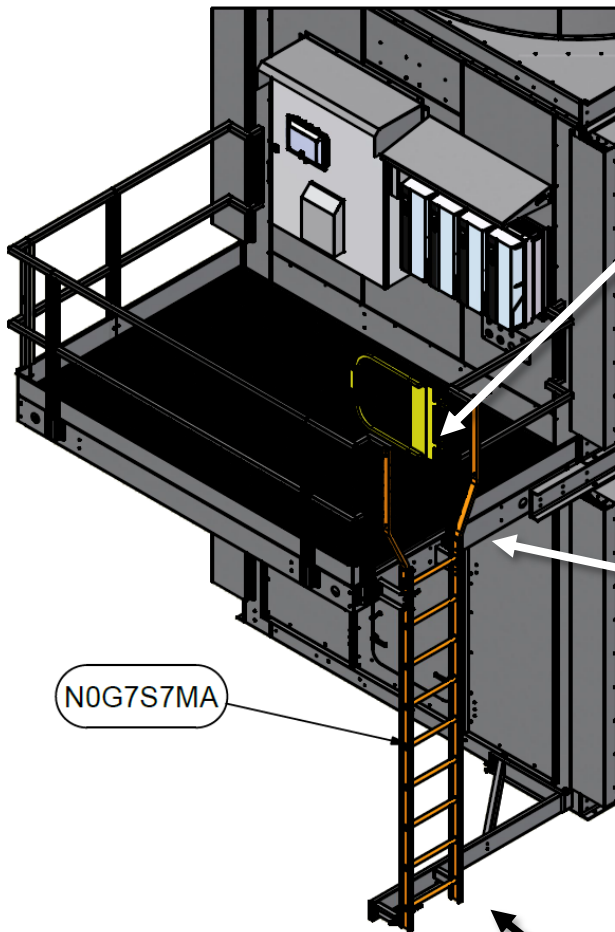
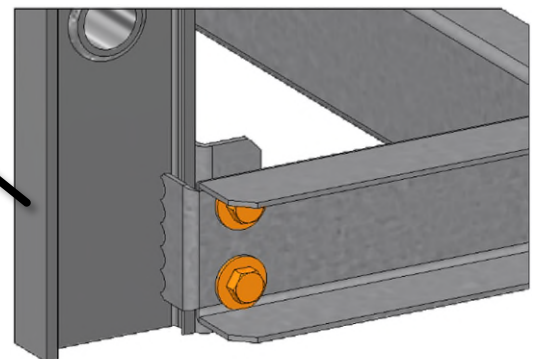

Figure 257. External Platform Ladder Location
Figure 270. External Platform Ladder to Bottom Ladder Support
2. Install the external platform ladder per **Figure 257** through **Figure 270**. Ladder can be on either side of platform. See submittal for details regarding external platform ladder installation location.